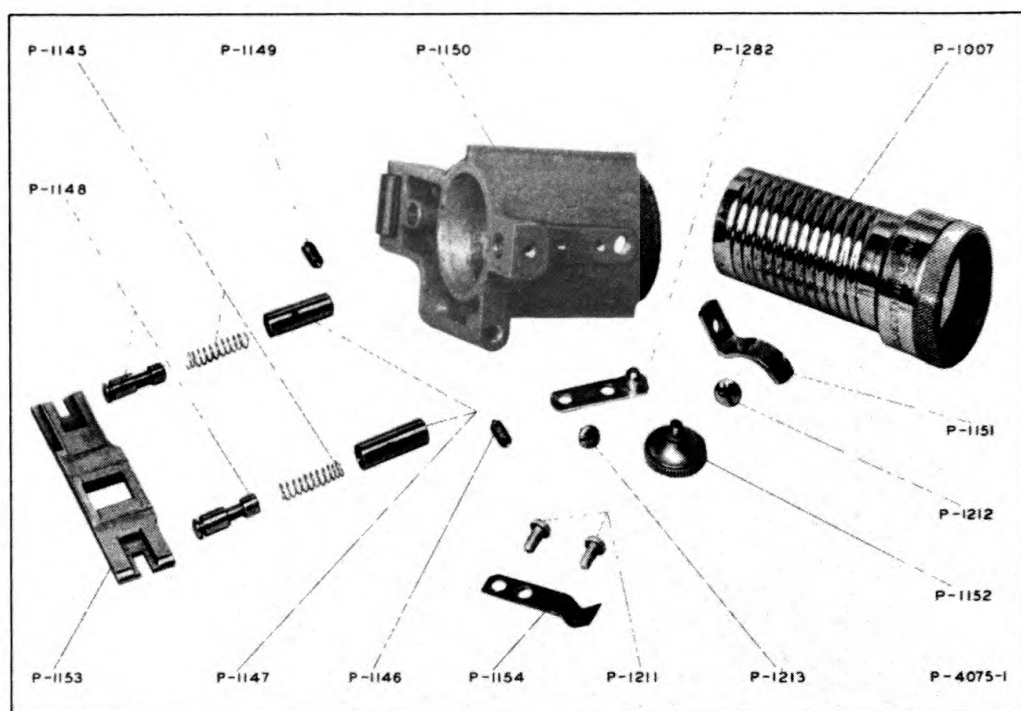

Figure 16—Film Gate—Disassembled
(1) Loosen the Allen head screws D of Figure 9 that hold each of the two plunger assemblies in place just enough to withdraw the shoe and the two plungers from the plunger bushings, without releasing the bushings. (About one turn.) (Also see Figure 16.)
(2) Remove the pressure springs from the plunger bushings.
(3) Insert new springs in each plunger bushing after making certain that the bushing and spring are free from dirt or grit.
(4) Apply one drop of oil on each shoe plunger.
(5) Assemble the plungers to the shoe and insert the plungers into the plunger bushings. Each plunger must move in and out *very freely*.
(6) Tighten the Allen head screws to hold the assembly in place.
(7) Check for freedom of movement. The film shoe must move in and out very freely. Apply finger pressure at any point on the shoe. The shoe must return to its original position by itself.